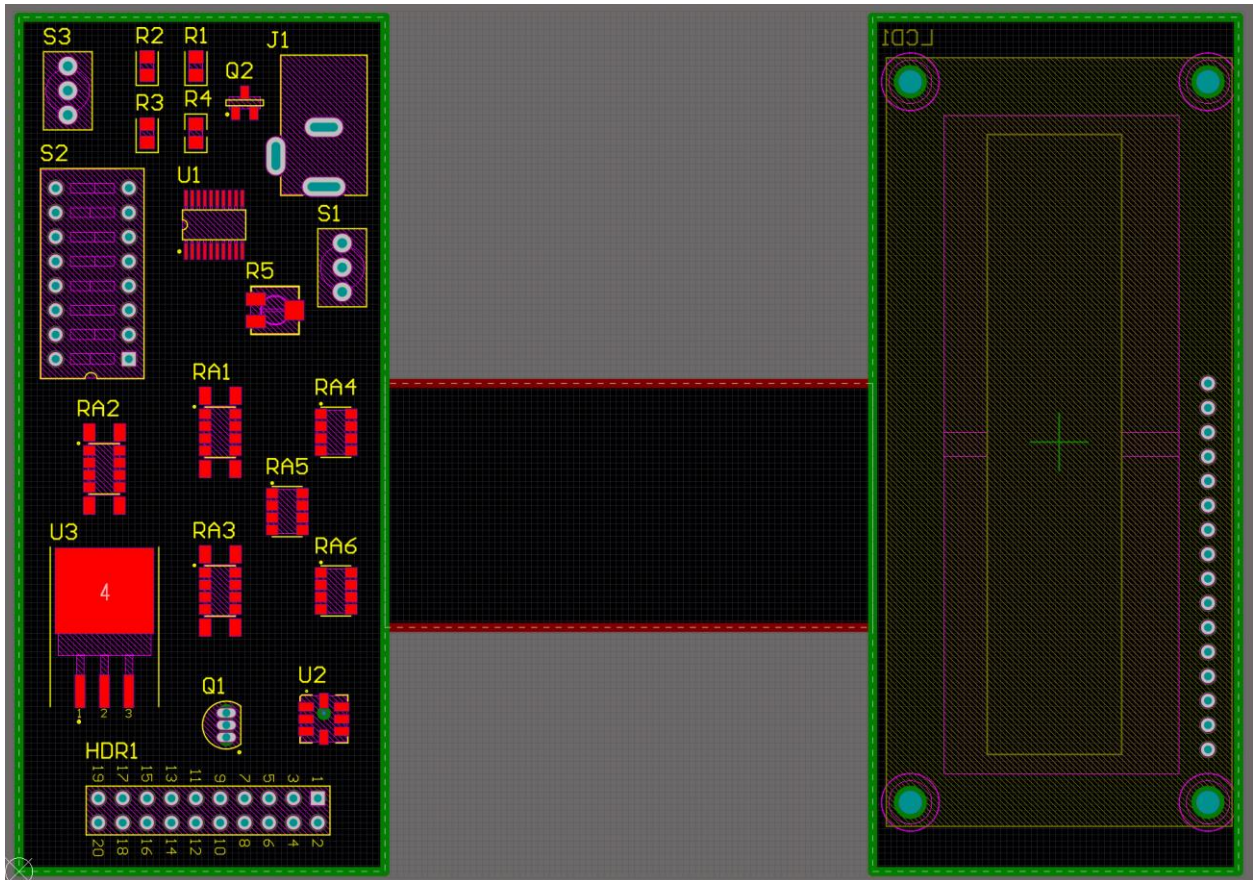

Figure 10. Components position on Rigid1 (top side) and Rigid2 (bottom side)
23. Place the remaining components on the top side of the Rigid Layer Stack Region - Left board as shown (as example) in Figure 10.